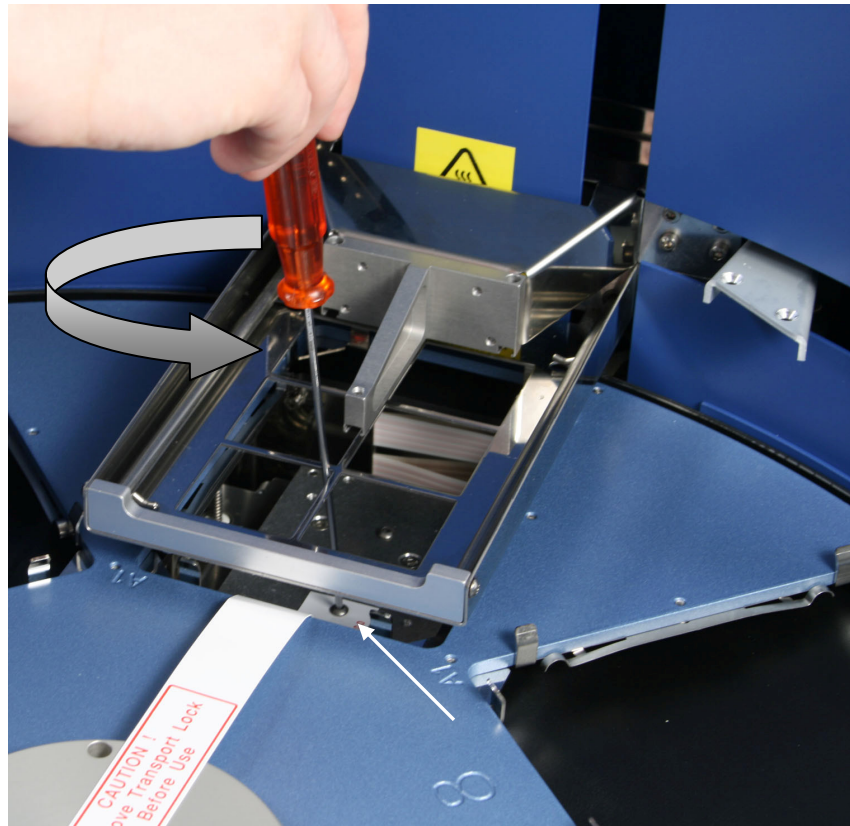
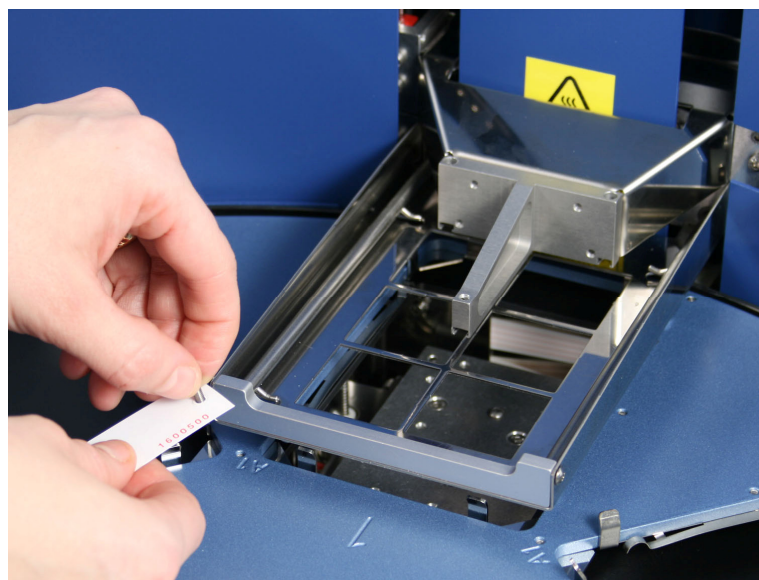

Fig. 5.5 Removing the transport lock of the heating block (A)
Fig. 5.6 Removing the transport lock of the heating block (B)
3. The transport lock of the heating block is removed according to Fig. 5.5. Unscrew the transport lock screw counterclockwise (Fig. 5.5). Lift the screw with the label attached (Fig. 5.6).
4. Remove the transport lock screw from the label (Fig. 5.6).